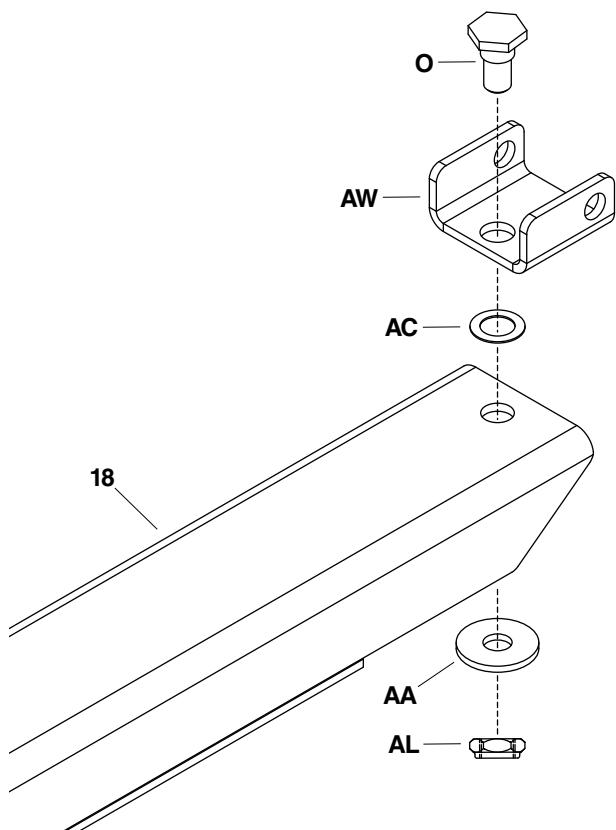

FIGURE 7
- Flip the tongue assembly (18) back over.
- Install a 1/2" x 1-1/8" bolt (O) through the pivot clevis (AW), 1" washer (AC), and the rear tongue assembly (18).
- Install a 1-1/2" washer (AA) and a 1/2" jam nut (AL) onto the 1/2" x 1-1/8" bolt (O) on the bottom side of the rear tongue assembly (18).
- Tighten hardware but make sure the pivot clevis can still move freely. See figure 7.